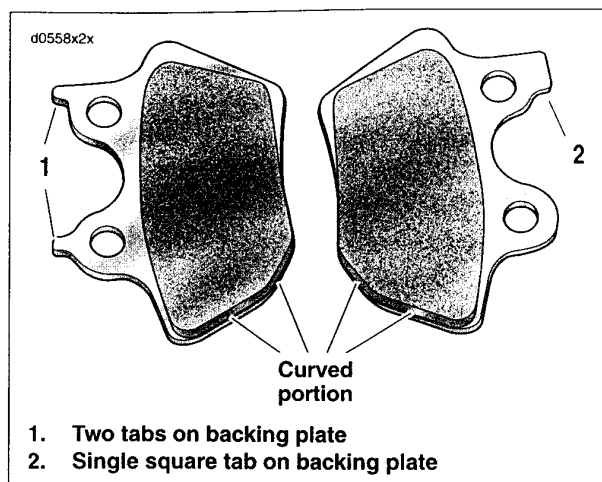

Figure 1-17. Brake Pad Orientation
See Figure 1-17. The front left, front right (not present on all vehicles) and rear brake calipers use the same exact brake pad set. Install pad with two tabs (1) on the inboard side of the rear caliper.
See Figure 1-17. The front left, front right (not present on all vehicles) and rear brake calipers use the same exact brake pad set.